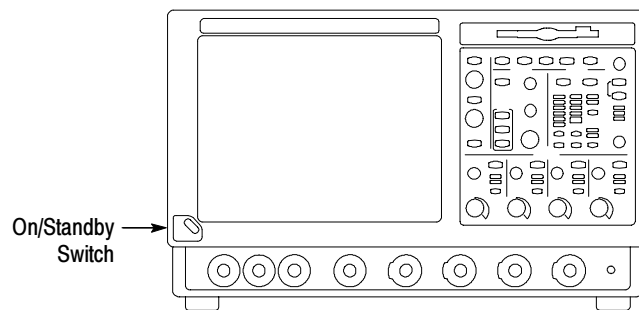

Figure 1-3: On/Standby switch location
5. If the oscilloscope does not power up, push the On/Standby switch to power on the oscilloscope (see Figure 1-3 for the switch location).